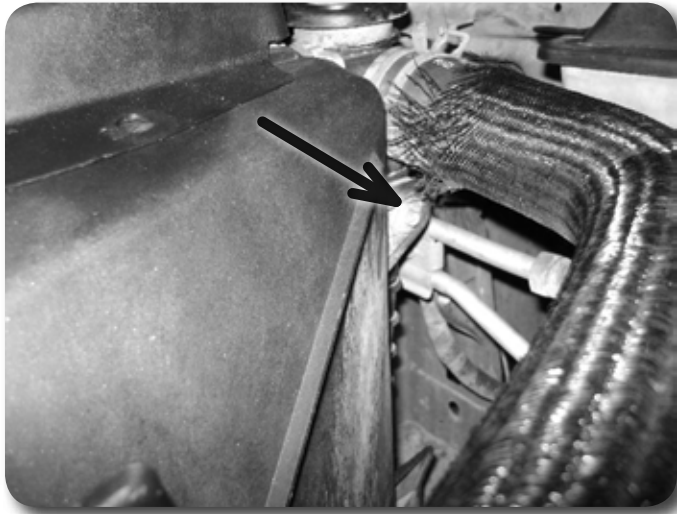

Figure 8
17. Remove the two bolts that mount the fan shroud to the radiator. **Figure 8** Pull up on the fan shroud to release it from the lower retaining clips. Set the shroud over the fan, away from the radiator. Save bolts.